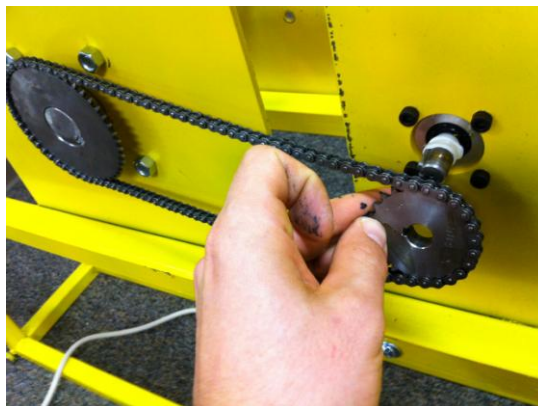

Figure 20 – Removal of motor-side sprocket
- b. Pull the motor sprocket off of the motor shaft, shown in Figure 20.
Note: The motor shaft of the original design is wrapped with Teflon tape to hold the sprocket tightly against the retaining ring and to prevent the sprocket from moving on the shaft. Refer to Figure 20.